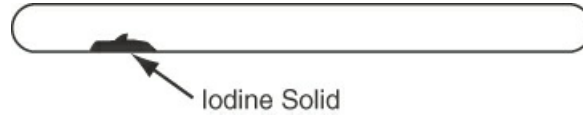

Figure P3.2.13
- *3.2.13** A 1.0 g sample of solid iodine is placed in a tube, and the tube is sealed after all of the air is removed (Figure P3.2.13). The tube and the solid iodine together weigh 27.0 g.